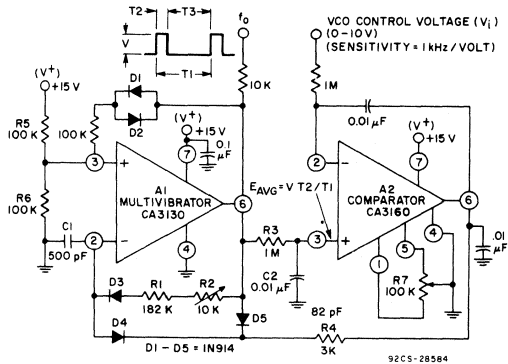

Fig.21 - Voltage-controlled oscillator.
The circuit diagram of a precision voltage-controlled oscillator is shown in Fig.21. The oscillator operates with a tracking error in the order of 0.02 percent and a temperature coefficient of 0.01%/°C. A multivibrator (A₁) generates pulses of constant amplitude (V) and width (T₂). Since the output (terminal 6) of A₁ (a CA3130) can swing within about 10 millivolts of either supply-rail, the output pulse amplitude (V) is essentially equal to V₊. The average output voltage ($E_{avg} = V T_2/T_1$) is applied to the non-inverting input terminal of comparator A₂ via an integrating network R₃, C₂. Comparator A₂ operates to establish circuit conditions such that $E_{avg} = V_1$. This circuit condition is accomplished by feeding an output signal from terminal 6 of A₂ through R₄, D₄ to the inverting terminal (terminal 2)